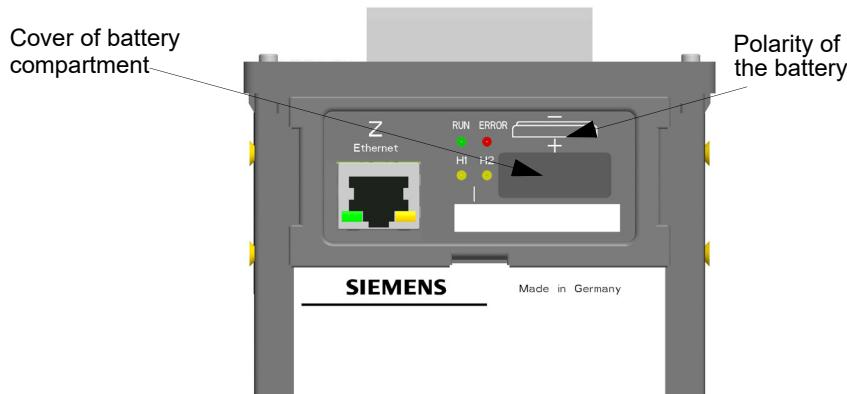

Fig. 5-1
- ❖ Insert the battery into the battery compartment with the polarity imprinted on the top side of the device (see Figure 5-1).